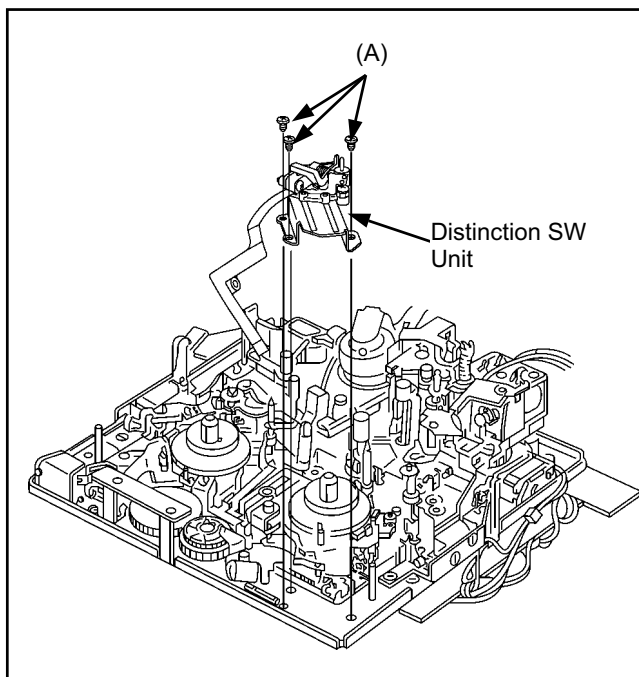

Figure 2-23
2. Remove the MIC Drive Rev Spring at the Distinction SW Unit side as shown in figure 2-23.
3. Unscrew the 3 screws (A) as shown in figure 2-23, and remove the Distinction SW Unit.